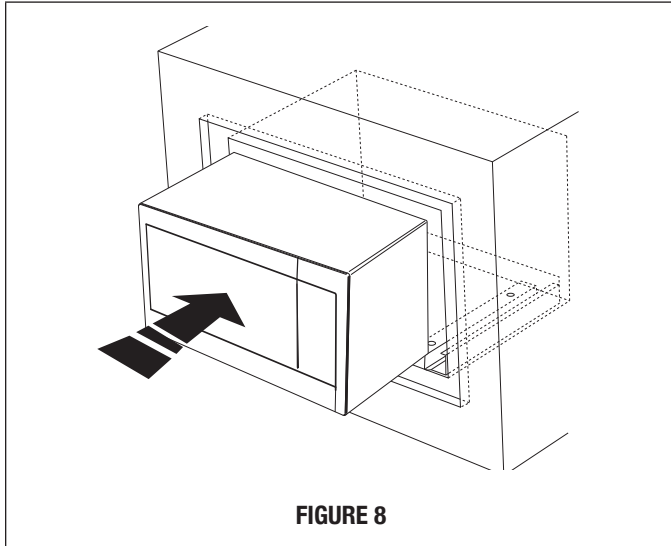
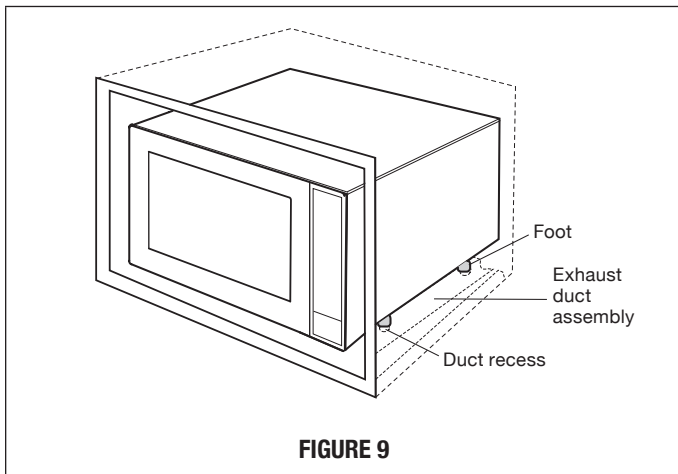

FIGURE 8
FIGURE 9
- B. Carefully guide the assembled oven into the prepared opening. Slide the oven onto the Exhaust Duct Assembly. See Figure 8. Avoid pinching the cord between the oven and the wall. Adjust the position of the oven so that the feet of the oven are fitted into the recesses of the Exhaust Duct Assembly and the door opens properly. See Figure 9.